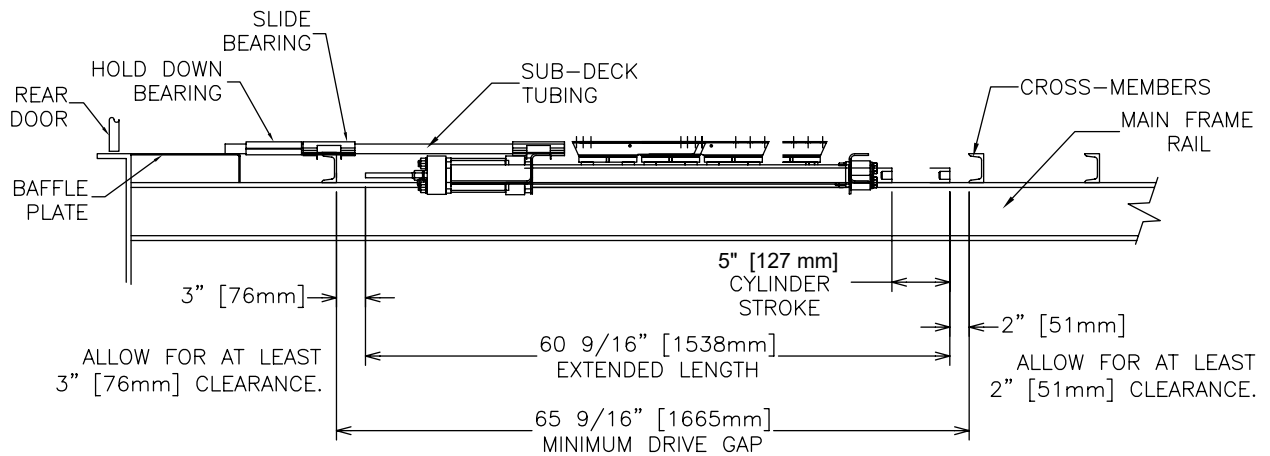

Figure 5
3. Choose the location at which the drive unit will be installed and leave an adequate gap in the cross-members (Figure 5). The drive unit is normally installed as close to the rear of the trailer as is practical. Ideally, there should be one cross-member between the baffle plate and drive unit, with enough space for a slide bearing and a hold down bearing. (See below for more information about baffle plate installation). Note that in applications where a trailer is being used on uneven surfaces, it may be preferable to install the drive as far forward as possible in order to reduce the risk of the drive unit contacting the ground (e.g. agricultural trailers).